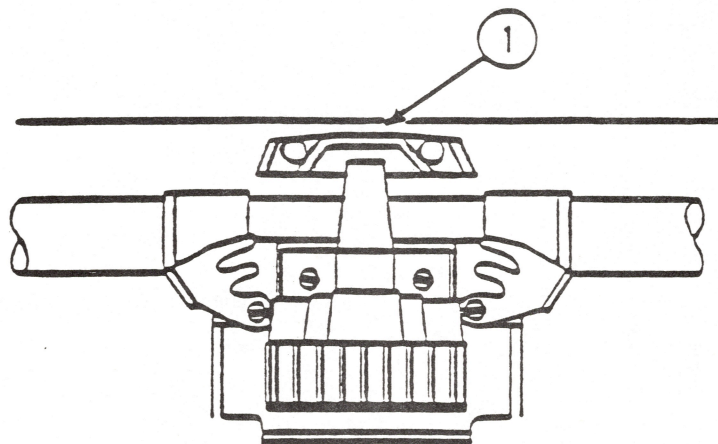

FIGURE 12
8. Clean the dot head (see Figure 12, #1) with a low residue cleaner such as isopropyl alcohol or freon.